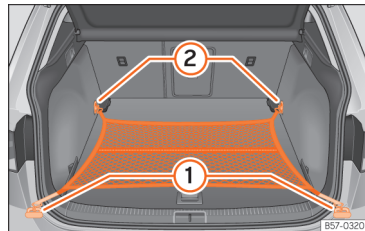

Fig. 174 In the boot: net bag hooked up at floor level.
- Secure the net hooks to the fastening rings >>> Fig. 174 ① and ② >>> ⚠. The bag zip should be facing upwards.